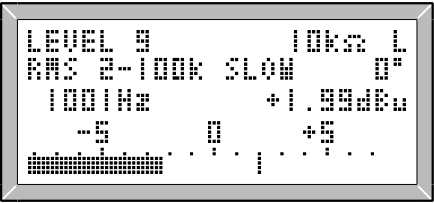

Fig. 2.24 Peak Hold
**[\*][PKH]** toggles a peak hold function on the LA102. The numerical display is held briefly and a marker appears on the bar graph (fig. 2.24). This is always switched in automatically on W&F.